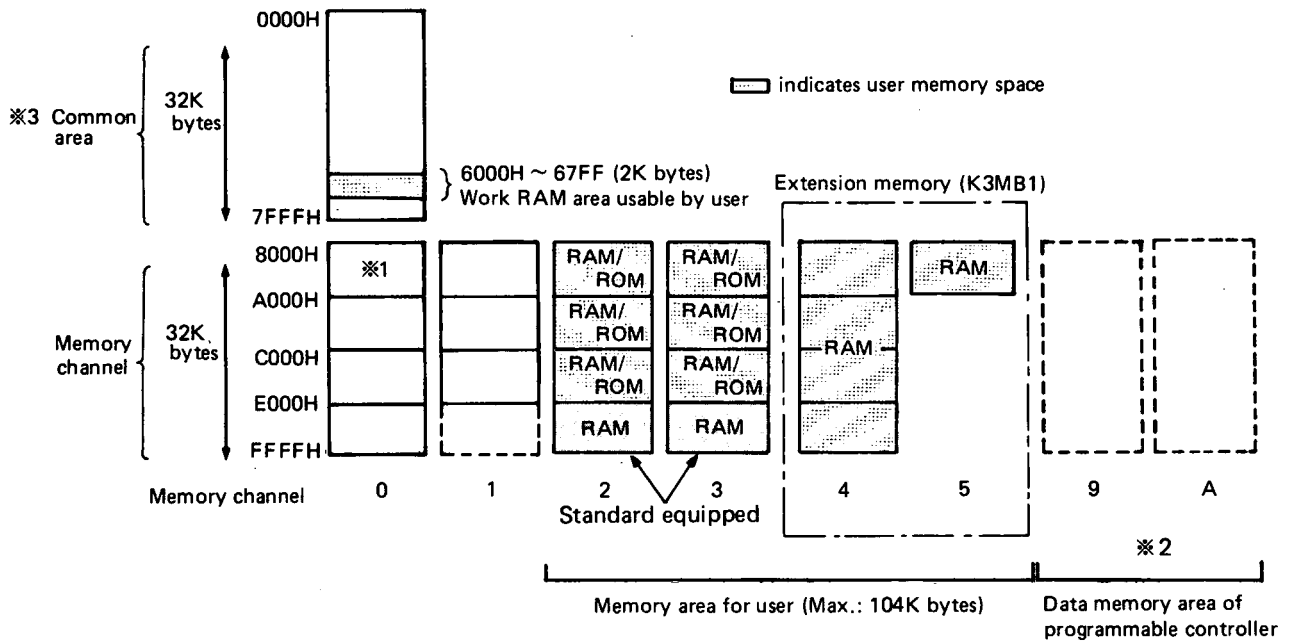

Fig. 7.2 Memory Map
The memory areas have been expanded by using the latter half (32K bytes) of 64-byte memory space of KD51E, with the channels switched, as shown in Fig. 7.2.
- 1 User memory space is the hatched area of Fig. 7.2.
Access to memory area other than the user memory area shown in Fig. 7.2 may result in wild run of the system. Therefore, extreme care should be exercised.